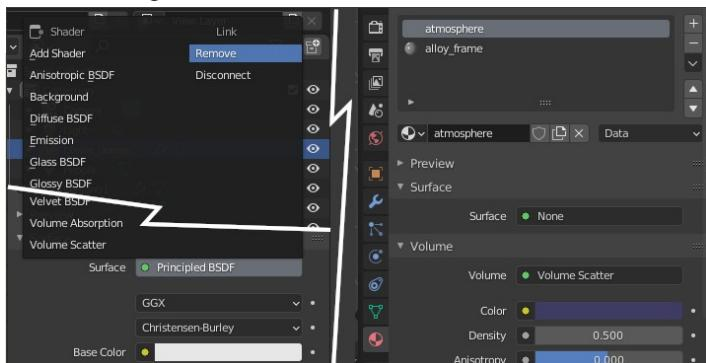

Figure 2-16 Change Material Surface shader to None and the Volume shader to Scatter.
2. Switch to the Material properties tab (pink and black sphere, shown in the bottom center of Figure 2-16), add a new material, and rename it to **atmosphere**. Add a New Material Slot with the + button (top right of Figure 2-17), then with the drop-down beneath the list of slots, **Browse Material to be linked**, select the material you used for the top dome and corridor, which should still be called Material.001. Rename it to **alloy_frame**. With the **atmosphere** Material Slot selected, change the default Surface shader from Principled BSDF to **Remove** and the Volume shader to **Volume Scatter** as shown in the composite Figure 2-16.
1. Select the Output Properties tab (white printer icon, second from top in Figure 2-16) and tick the **Render Region** checkbox.
When working with materials, keep in mind that objects have a list of "slots," each capable of holding a material, but the materials themselves are held centrally so multiple objects can use them. The pool of available materials is accessed from the little drop-down below the list of slots (Figure 2-16). In the next chapter, you will see how different materials can be applied to different groups of vertices or faces.